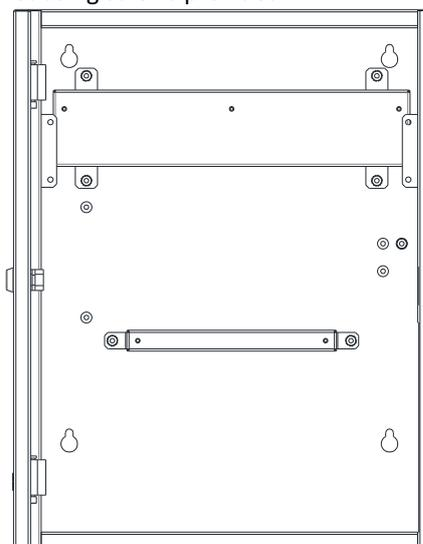

Figure 7 PCB fixed plate installation
- Drill the hole on the position shown in Figure 7. The size of the holes shall be suitable for 1/2" or 3/4" conduit connection.